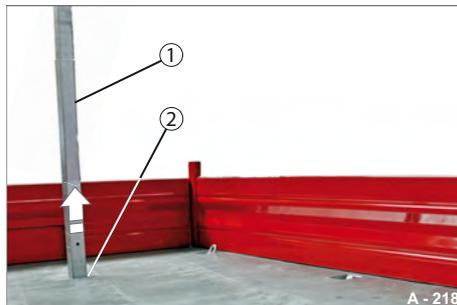

Fig. 227 Removing stanchion
- ▶ Pull the stanchion (Fig. 227/1) out of the side post pocket (Fig. 227/2).